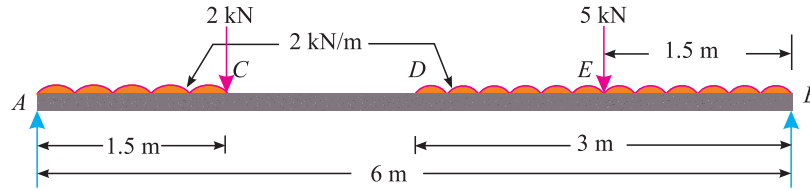

Fig. 13.29
5. A simply supported beam AB , 6 m long is loaded as shown in Fig. 13.29.